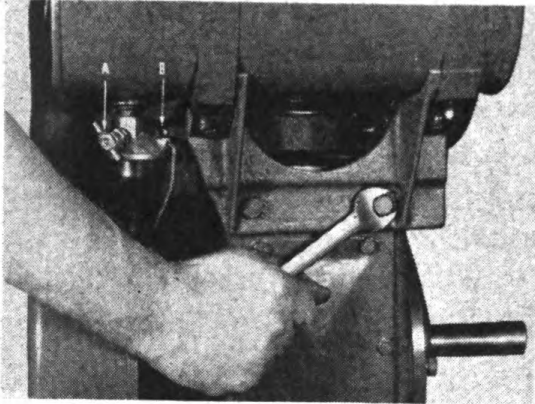

Figure 122
- (1) Drain oil from base of engine.
- (2) Remove air cleaner.
- (3) Close fuel shut-off valve ("A" Figure 122).
- (4) Disconnect fuel line at "B" Figure 122.